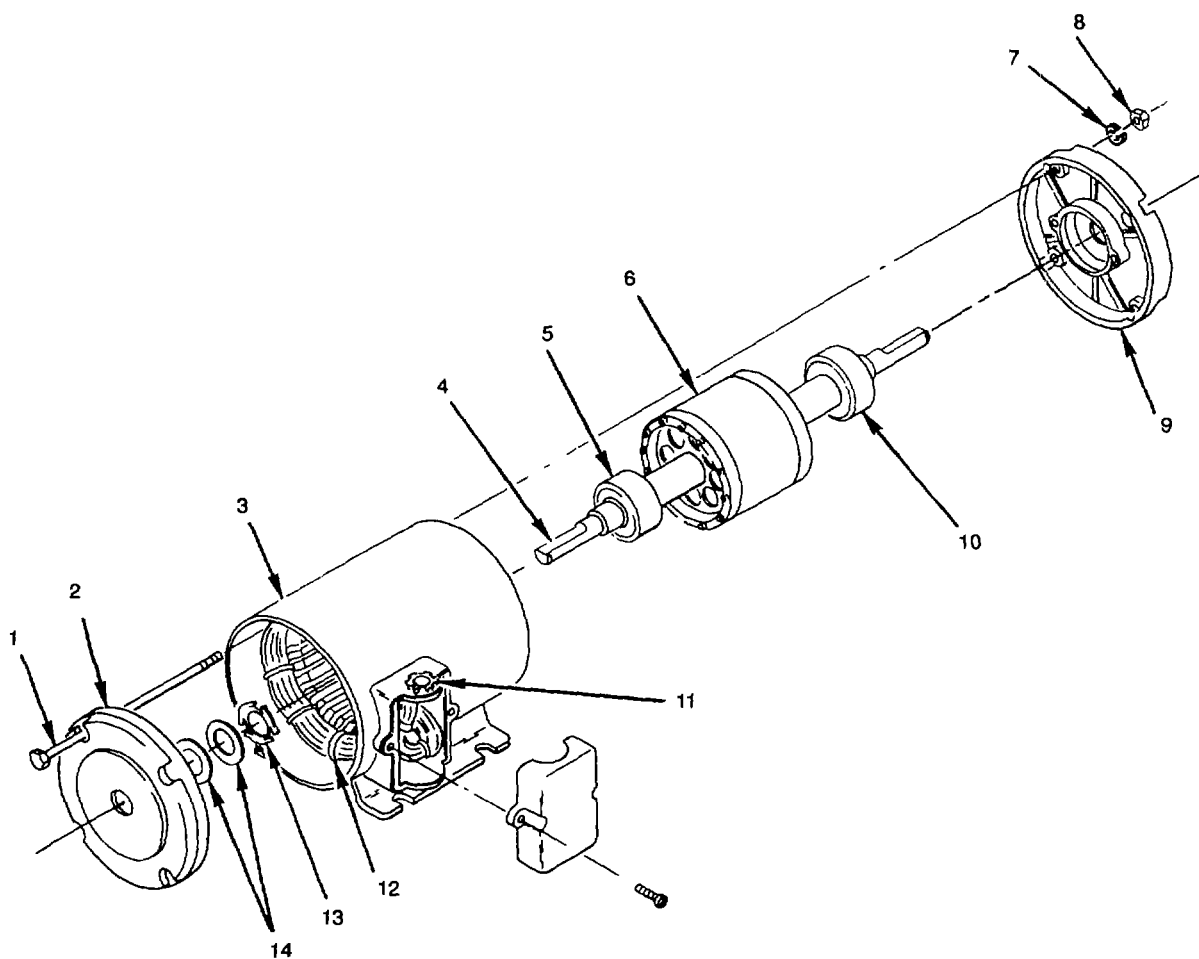

Figure 5-2. Condenser Motor (B3)
- a. Match-mark motor frame (3) and end caps (2) and (9) (see fig. 5-2).
- b. Remove four end cap nuts (8), lockwashers (7), and through bolts ( 1).